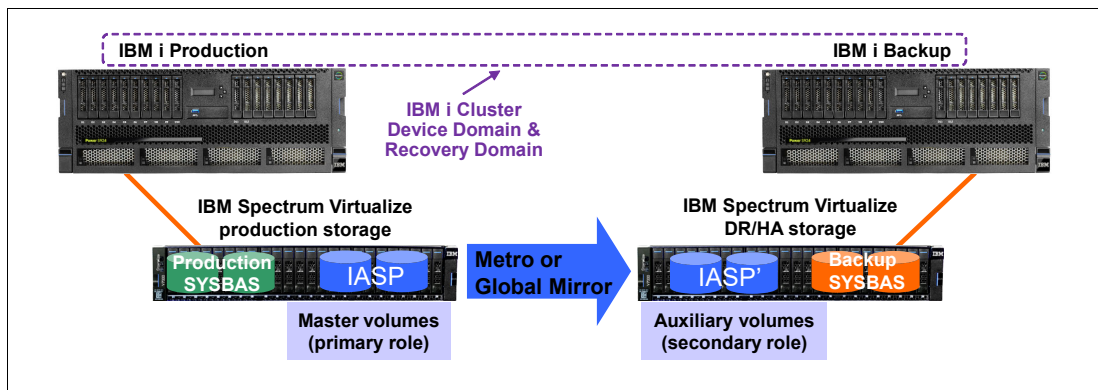

Figure A-12 IBM i IASP replication with IBM Spectrum Virtualize
IASP-based replication for IBM i is used for a high availability (HA) solution in which an IBM i production and an IBM i backup node are configured in an IBM i cluster and the IASP that is replicated by IBM Spectrum Virtualize remote replication is switchable between the two cluster nodes, as shown in Figure A-12.